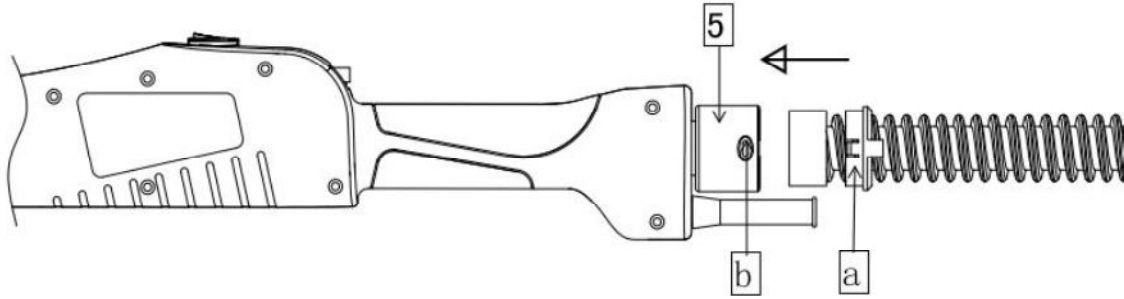

Fig .3
7. Connection Set for Dust Outlet (Fig .3 / 4)
Installation Guide (Fig .3)